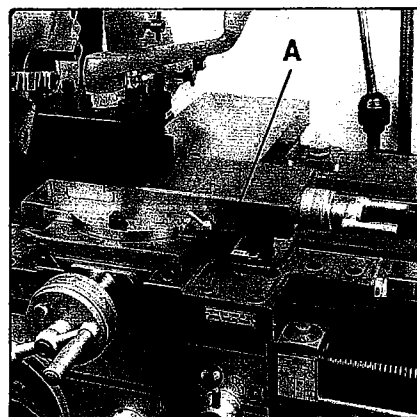

Fig. 5
4. **Apron** - Oil must be up to indicator mark in oil sight glass on right side bottom of apron. Top off with Shell Turbo T-68 or equivalent. Remove oil plug on upper left of apron to fill. To drain, remove drain plug on bottom of apron. Drain oil completely and refill after the first three months of operation. Then, change oil in the apron annually. Remove red oil plug (A, Fig. 5) on top of apron and fill with one shot of 30W oil daily.